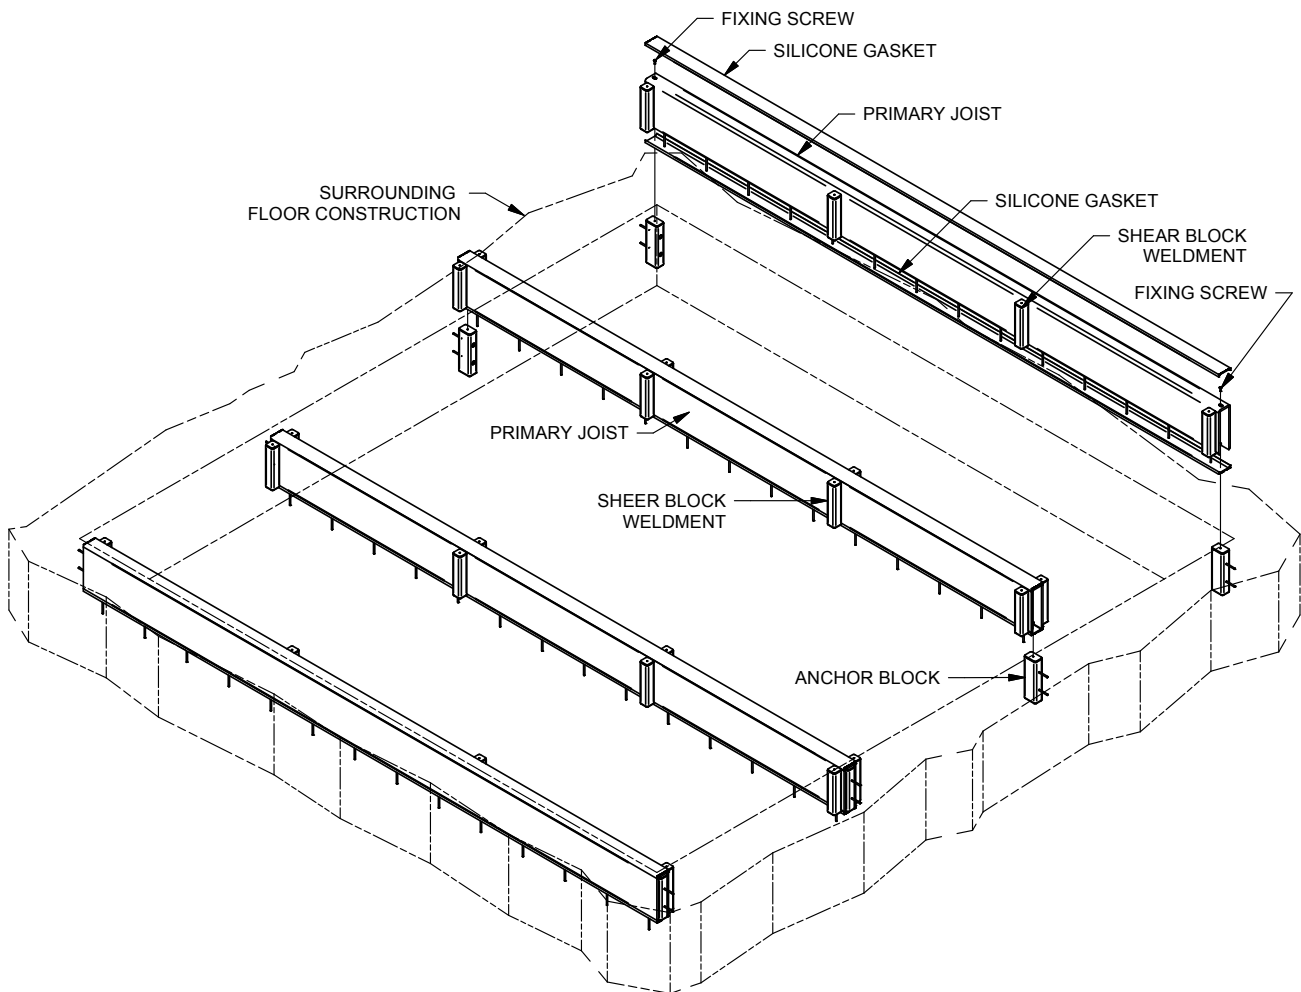

Figure 3: Primary Joist Installation
1. Study the TGP supplied project drawings for proper installation order, joists that are to be installed first are typically labeled as primary joists. These will connect to the anchor blocks that were installed in Step 5. If the typical anchor blocking is used, the bottom of the primary joists will have a machined notch on the bottom to allow for the joists to be slid down into place over the anchor blocks. The silicone gasket on the bottom will have to be peeled back to uncover notch for clearance (See Figures 3 and 4).